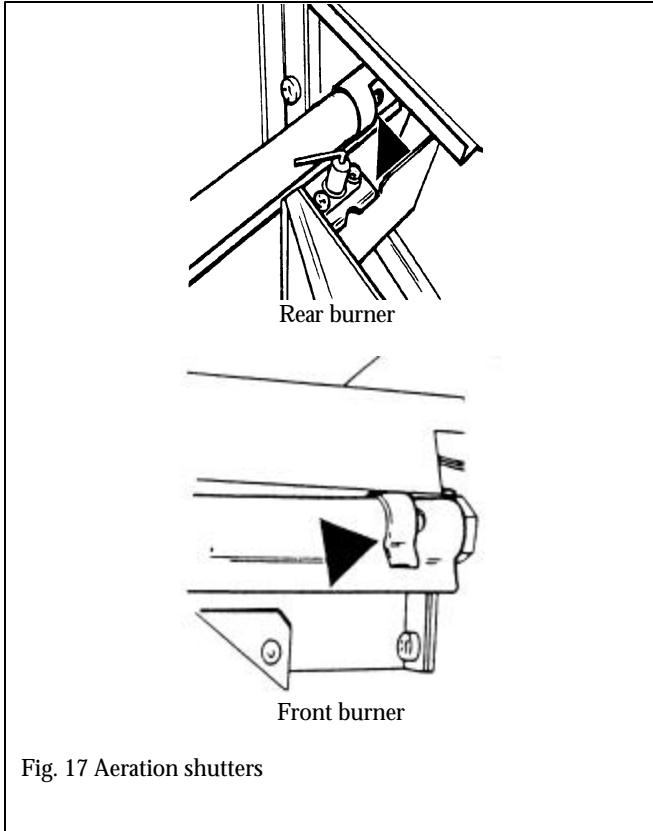

Fig. 17 Aeration shutters
The air holes are at the right side of the tubes - See fig 17. The shutters can slide to the right to reduce the air supply or to the left to increase it.
- 20.3** Dust, etc. can be brushed from the logs after detaching the front fascia and window. If you are removing the logs, we suggest that they are removed in the reverse order to that shown in the fuel bed assembly instructions. Dust etc. can also be removed from the burners using a soft brush after removing the logs. When cleaning the burners also check the aeration holes (see fig.17) and brush clean if necessary. Make sure that no particles are brushed into the burner tubes.